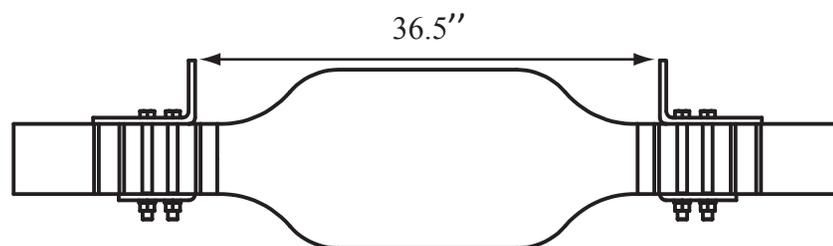

Figure 2
Step 4. Adjust (with hammer taps if needed) left and right axle brackets so that the inside measurement of axle brackets is 36 1/2". (Fig.2)